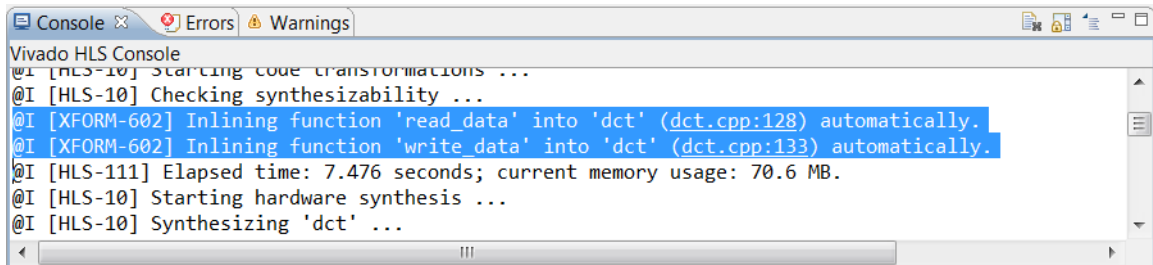

Figure 6-6: Automatic Optimization Reporting
- Figure 6-6 shows that, during synthesis, these blocks were automatically inlined (the hierarchy was removed).